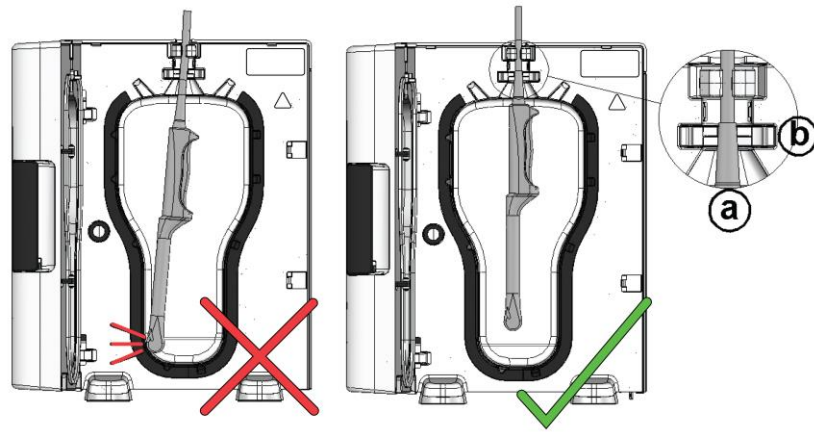

Figure 10
3. Two clamps hold the probe securely in the chamber. See Figure 10.
The probe has a short sleeve at the back of the handle, covering the electrical cable. This is the Probe Gland. See Figure 10(a).
Wearing gloves insert the probe correctly in the trophon and ensure the probe gland is held by the soft clamp. See Figures 10–12.